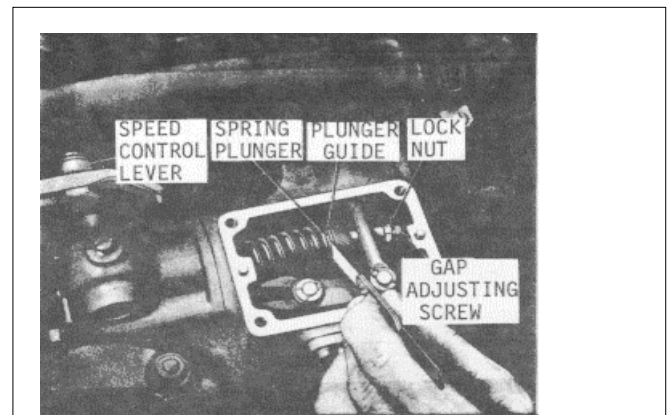
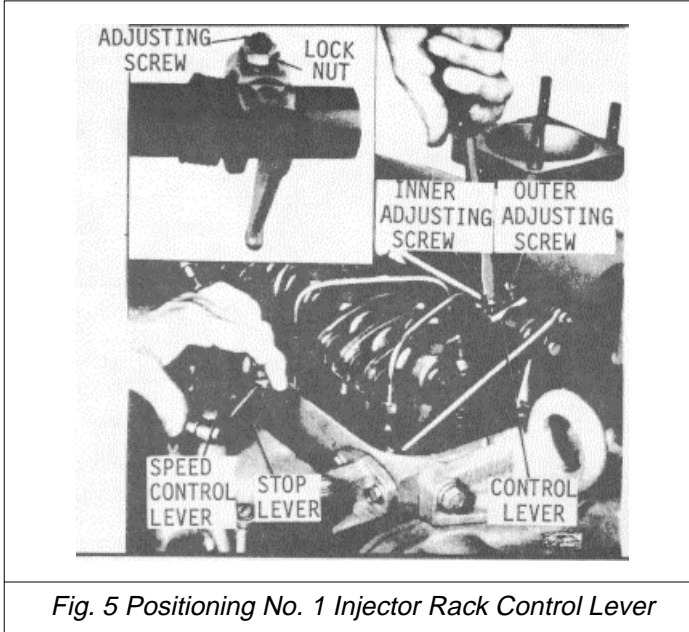

Fig. 4 Adjusting Governor Gap
Fig. 5 Positioning No. 1 Injector Rack Control Lever
- (1) Disconnect any linkage attached to the governor levers.
- (2) Back out the buffer screw until it extends approximately 5/8" from the locknut.
- (3) Remove the governor cover.
- (4) Place the speed control lever (Fig. 4) in the maximum speed position.
- (5) Insert a .006" feeler gauge between the spring plunger and the plunger guide as shown in Fig. 4. If required loosen the locknut and turn the adjusting screw in or out until a slight drag is noted on the feeler gauge.
- (6) Hold the adjusting screw and tighten the locknut. Check the gap and readjust, if necessary.
- (7) Secure the governor cover to the governor housing with three regular screws, one special screw and lockwashers.
- (8) Hook the torsion retracting spring on the special cover screw and the stop lever (Fig. 5).
Adjust the No. 1 injector rack control lever (Fig. 5) first, to establish a guide for adjusting the remaining injector rack control levers.
- (1) Loosen all of the inner and outer adjusting screws (Fig. 5). Be sure all of the injector rack control levers are free on the injector control tube.
- (2) Move the speed control lever to the full fuel position.
- (3) Move the stop lever to the run position. Hold it in that position with light finger pressure. Turn the inner adjusting screw of the No. 1 injector rack control lever down until a step-up in effort is noted. This will place the No. 1 injector rack in the full-fuel position. Turn down the outer adjusting screw until it bottoms lightly on the injector control tube. Then alternately tighten both the inner and outer adjusting screws.